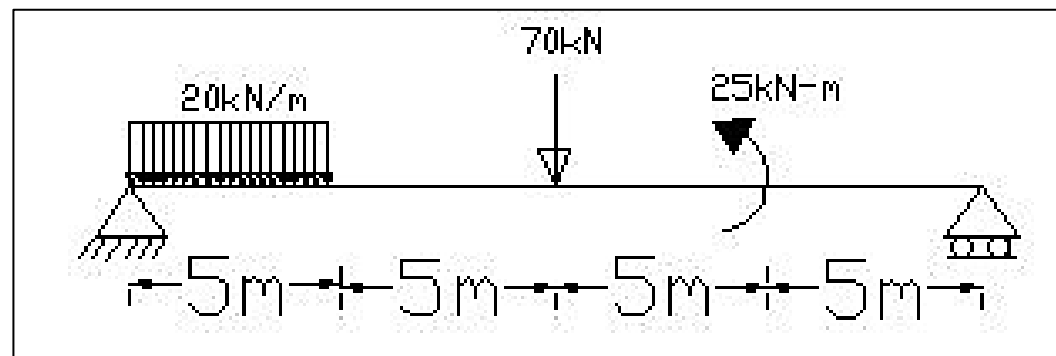

Fig.6
- (b) Construct the shear force and bending moment diagram of the following beam shown in Fig. 6.